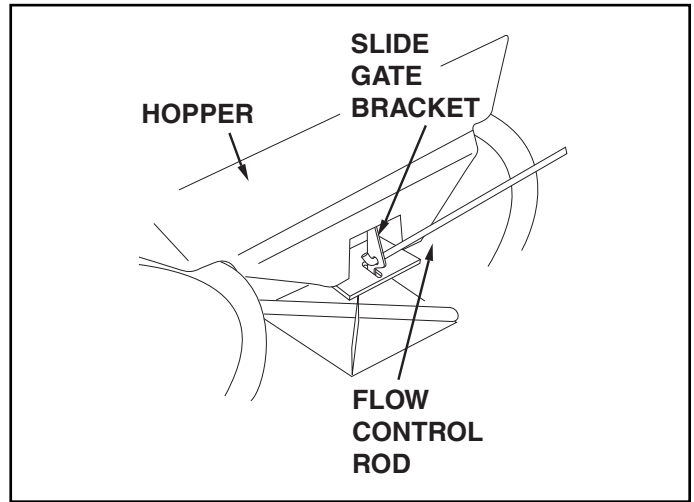

FIGURE 6
12. Insert the hook end of the flow control rod through the hole in the slide gate bracket located under the hopper. See figure 6.